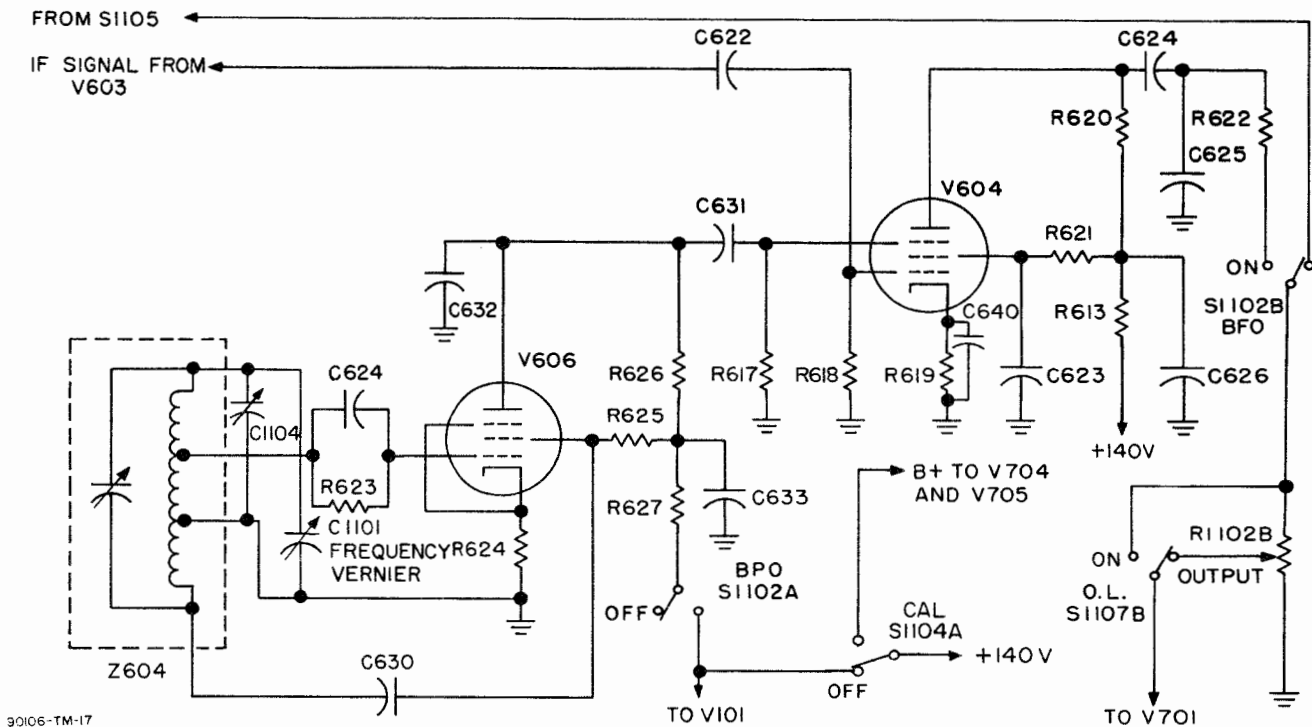

Figure 4-9. Beat Frequency Oscillator and B.F.O. Mixer Circuit, Simplified Schematic Diagram
g. BEAT FREQUENCY OSCILLATOR AND B.F.O. MIXER CIRCUIT (figure 4-9). - Beat frequency oscillator V606 is an electron coupled Hartley oscillator. It functions only when B.F.O. switch S1102 is in the "ON" position and CAL switch S1104 in the "OFF" position. In the "ON" position, B.F.O. switch S1102A connects 140 V to the plate and screen grid of V606. CAL switch S1104 is in series with S1102A and must be in the "OFF" position to continue the DC circuit from the plate and screen grid of V606 to the 140 V supply. This is to avoid the possibility of mistaking a B.F.O. zero beat for a calibration zero beat. The oscillator tuned circuit consists of Z604, trimmer capacitor C1104 and FREQ VERNIER capacitor C1101. Grid bias is obtained from C629 and R623 and additional bias is provided by cathode resistor R624. Positive feedback is coupled from the screen grid (oscillator plate) by capacitor C630 and oscillator coil assembly Z604 to the control grid of V606. Harmonics of the oscillator frequency are bypassed to ground at the plate of V606 by C632, and RF voltage is decoupled from the 140 V line by C633 and R627. The output frequency of V606 is 200 KC when FREQ VERNIER capacitor C1101 is in its "0" position.